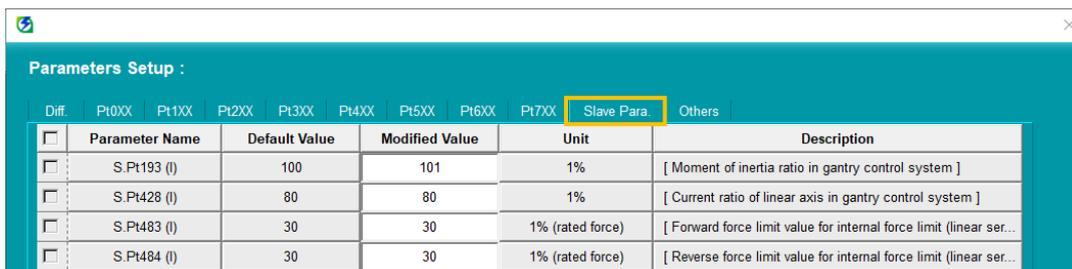

Figure 7.3 Adjust Slave's parameters from Master
- (4) Click  to open **Parameters Setup** window and adjust Slave's parameters in **Slave Para. Tab**, as figure 7.3 shows.